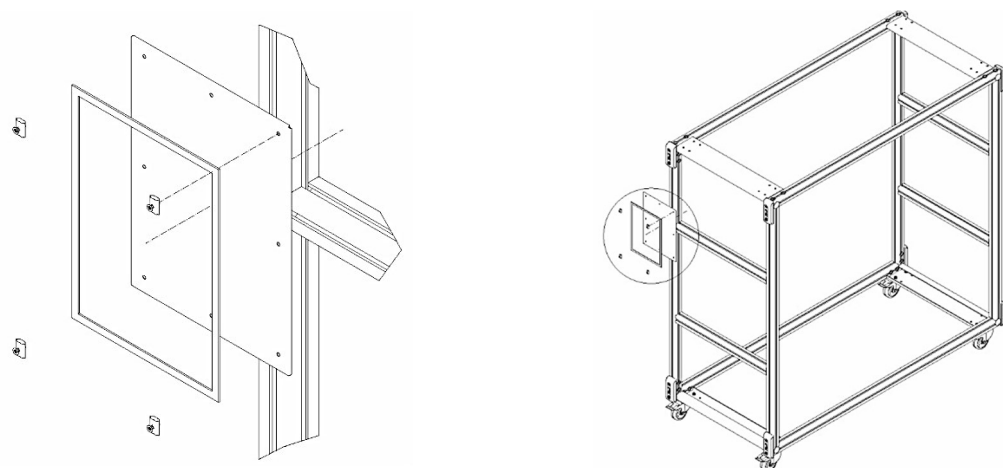

Figure 6: Assembling the metal panel (vertical assembly shown here)
10. Mount the panel for an inventory list using the special nuts with spring and countersunk head bolts (M4x14) as shown in Figure 6 below. The magnetic frame can be fastened to the panel to hold a piece of paper such as an inventory list in place.